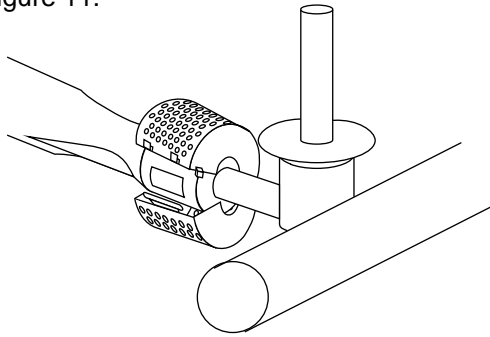

Figure 11
- d) Unlatch the Spider Stopper Guards and remove. Figure 11.